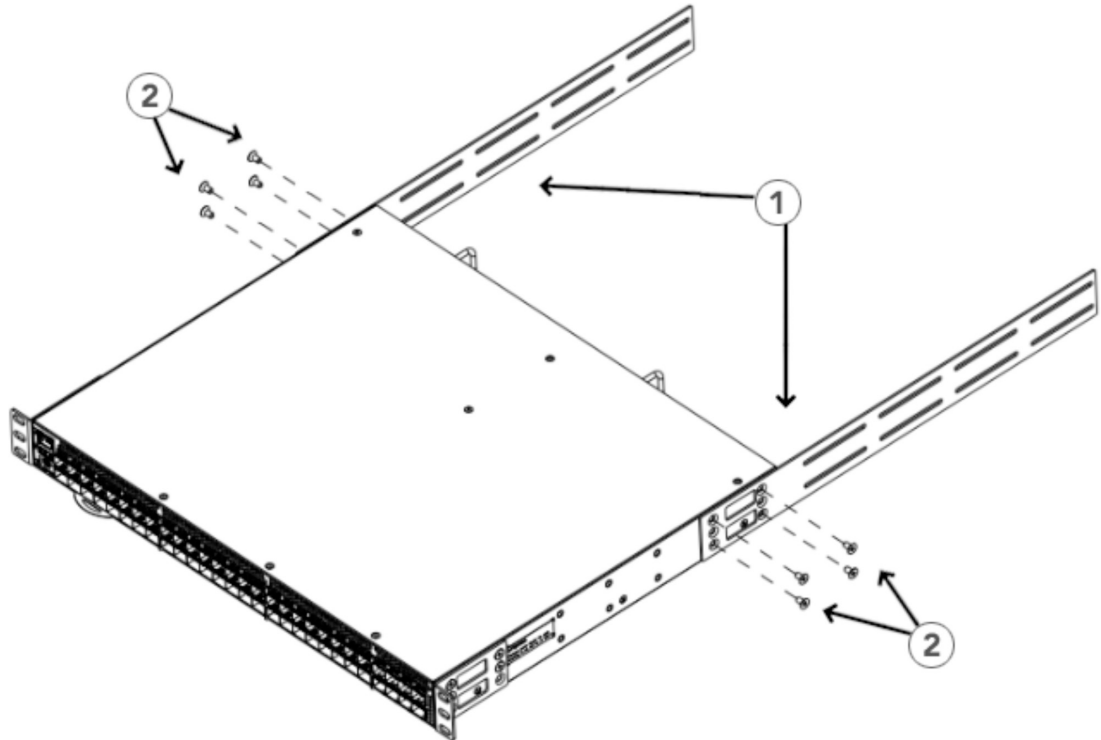

Figure 6. Attaching the extension brackets to the device
2. Position the right extension bracket along the side of the device as shown in Figure 6 on page 16.